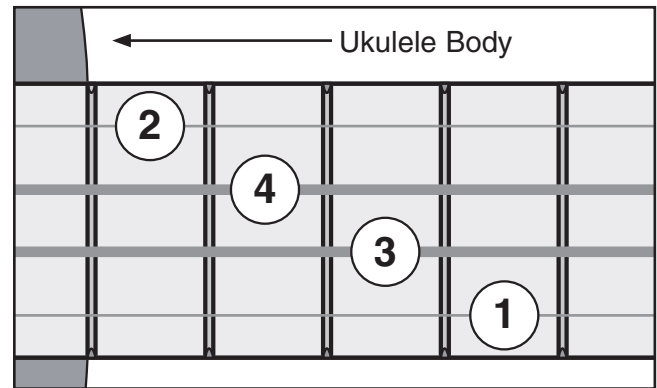

Figure 38. Proper string arrangement.
Each string of the ukulele is a different diameter. Number the strings 1, 2, 3, and 4—from the smallest diameter to the largest diameter. Their arrangement on the ukulele is shown in **Figure 38**.
2. In the order shown in **Figure 38**, pull the strings through the bridge slots, over the saddle, and over the string nut slots.